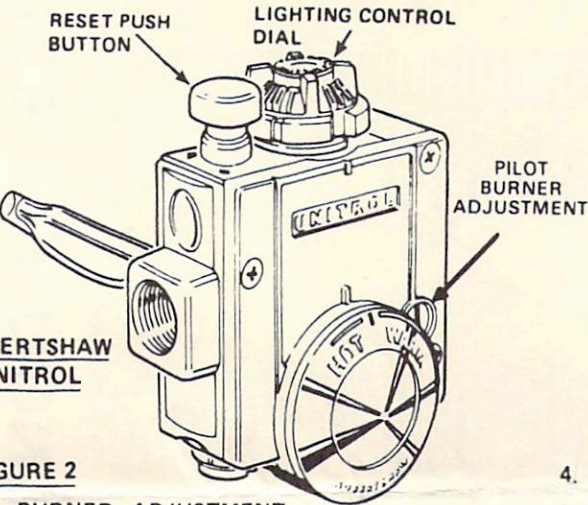

FIGURE 2
**NOTE: YOUR HEATER IS EQUIPPED WITH EITHER A ROBERTSHAW UNITROL (FIG. 2) OR AN ITT GENERAL CONTROL (FIG. 3).**